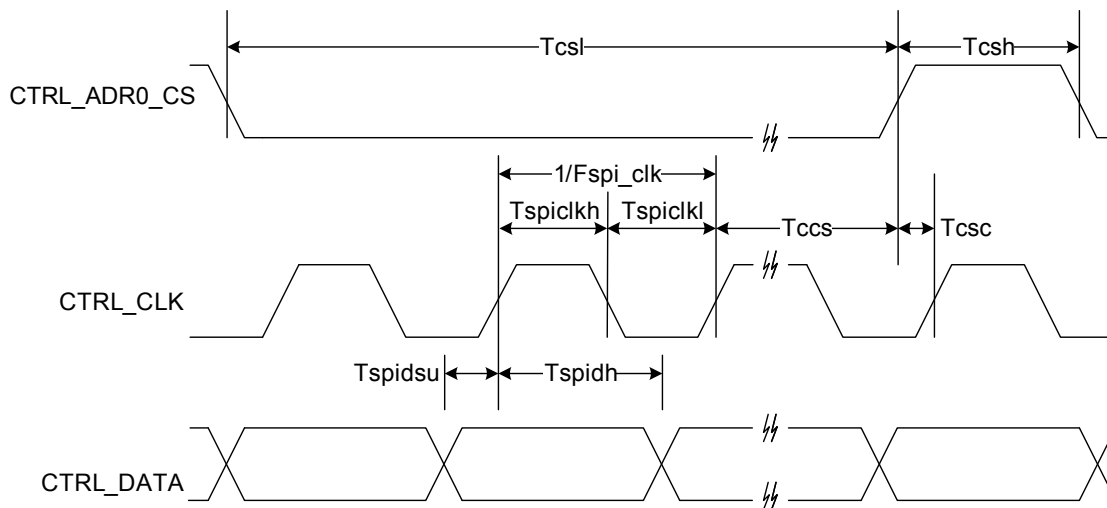

Figure 6. SPI Timing
| SPI BUS TIMING (4) See <a href="#">Figure 6</a> .                                             |                |                    |                                                |     |         |